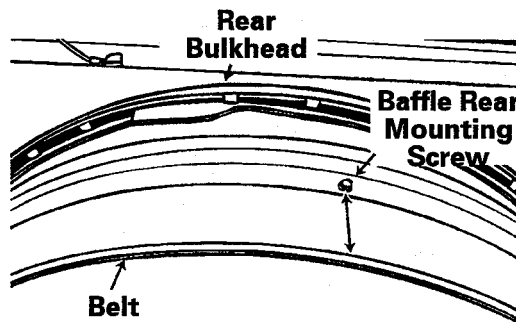

Figure 2-38
2. Place belt onto the outside of the tumbler and position the belt 1 1/2" in front of rear baffle mounting screws with ribbed side against tumbler, *see Figure 2-38*.